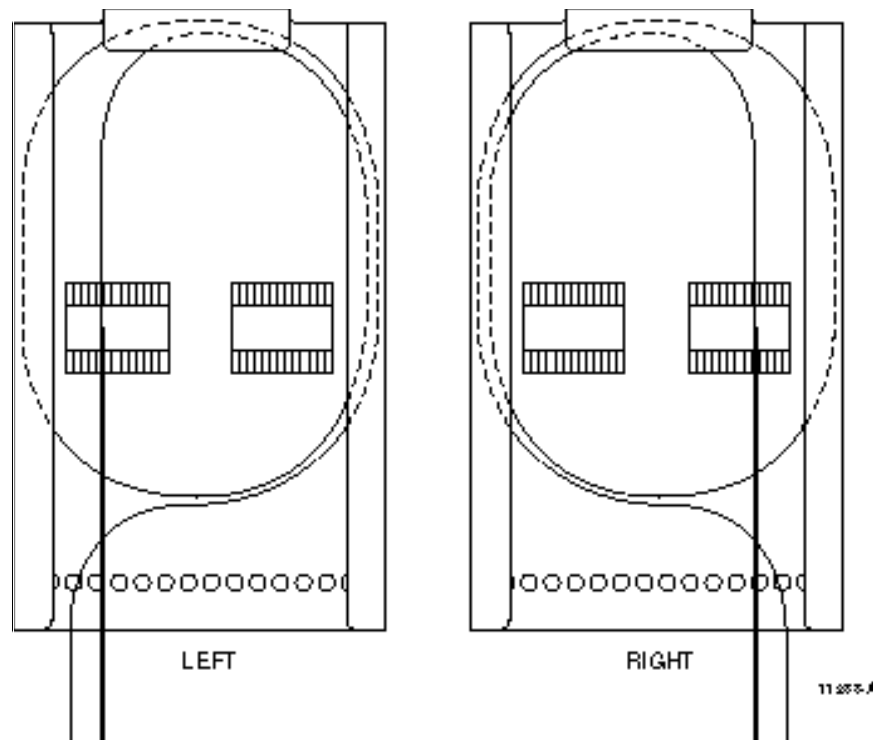

Figure 27. Routing Fibers on a Splice Tray
3. Route all fibers to the open end of the splice tray (without foldover tab), divided into left and right groups corresponding to which splice chip they are going to be splice at. Figure 27 shows the recommended route within the splice tray using this method. Tie down the fibers with cord lacing using the tie-down holes (shown below) on the open side of the splice tray.